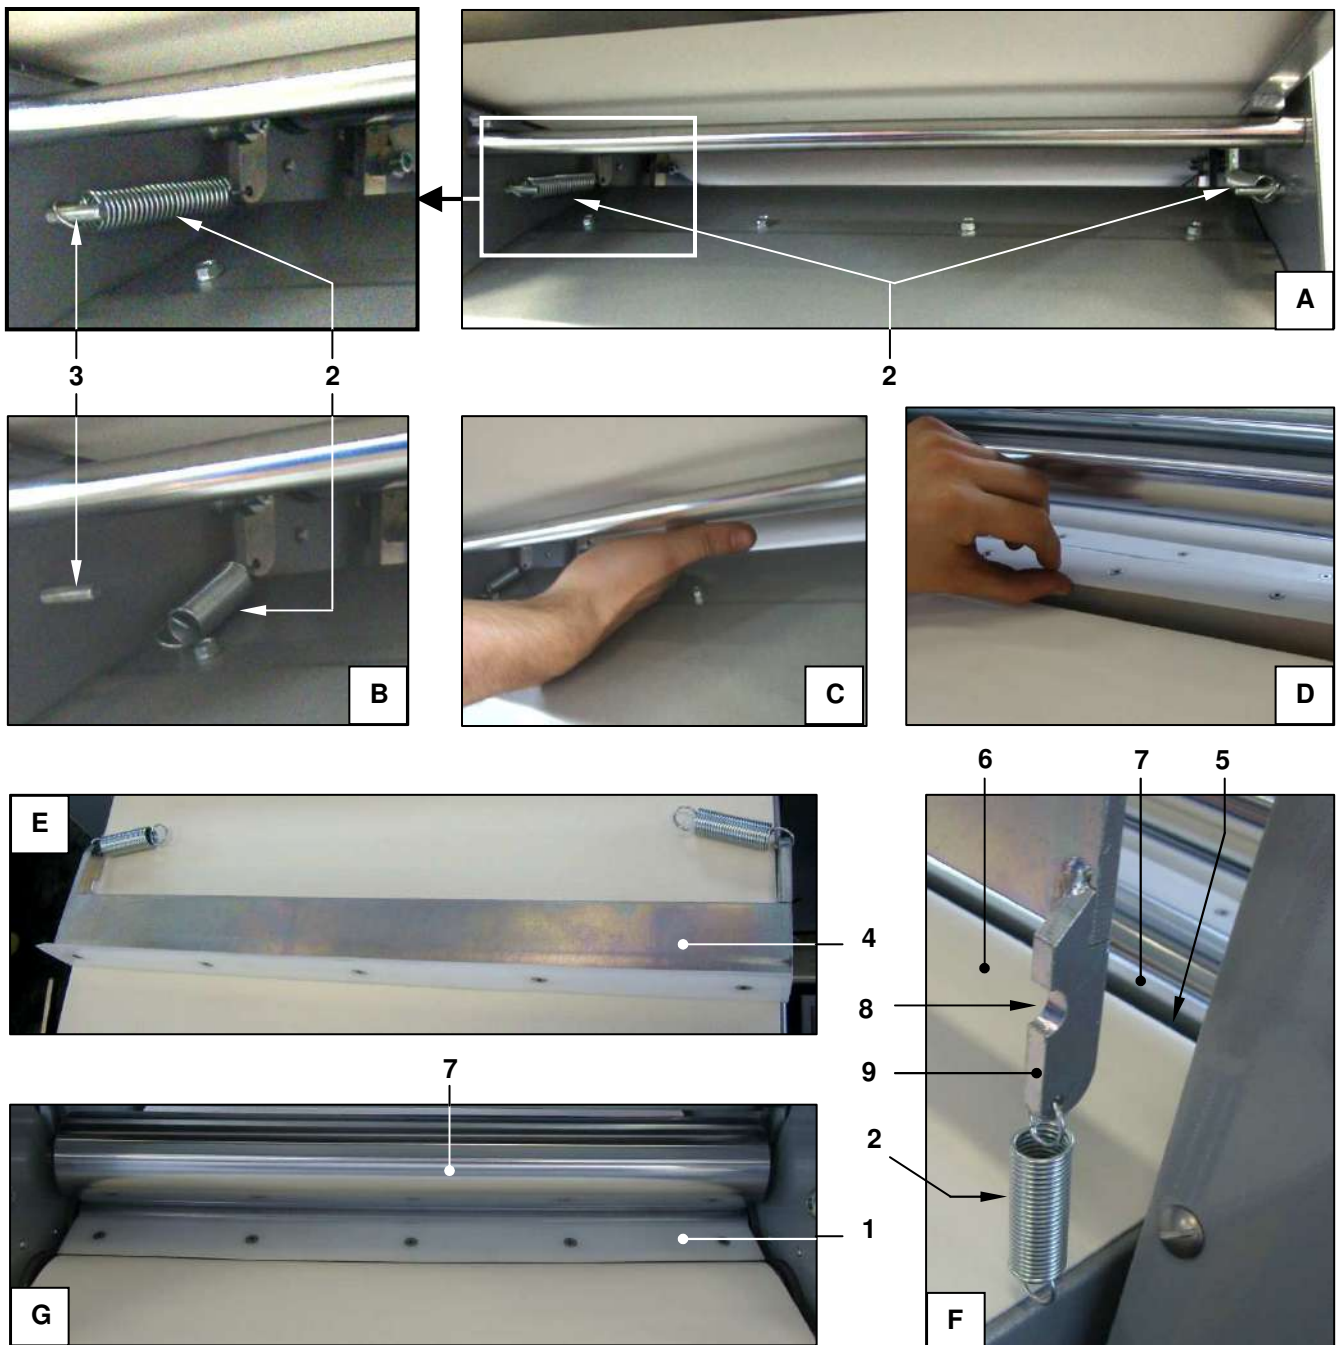

Figure 34 - Mod. SF450: removing/installing the lower roller scrapers
With reference to Figure 34, **to remove a scraper** ref. 1 with the relative support and springs:
- unhook both springs ref. 2 from the pins ref. 3 (photos A - B)